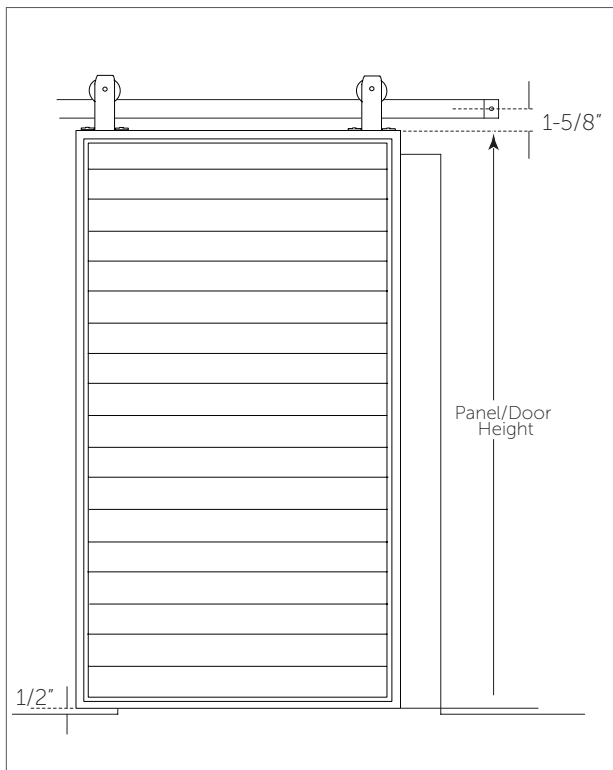

Figure 1
1. To determine where the track should be installed, first measure the height of the door, then add 2-1/8" door height. 1/2" will be for the clearance between the bottom edge of the door and the floor. 1-5/8" will be from the top edge of the door to the center of the track. (Figure 1).